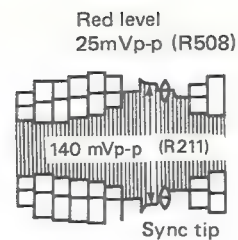

Figure 51
- 4) Adjust sync tip to 140 mVp-p as shown in Figure 51 with R211 (REC Y LEV).